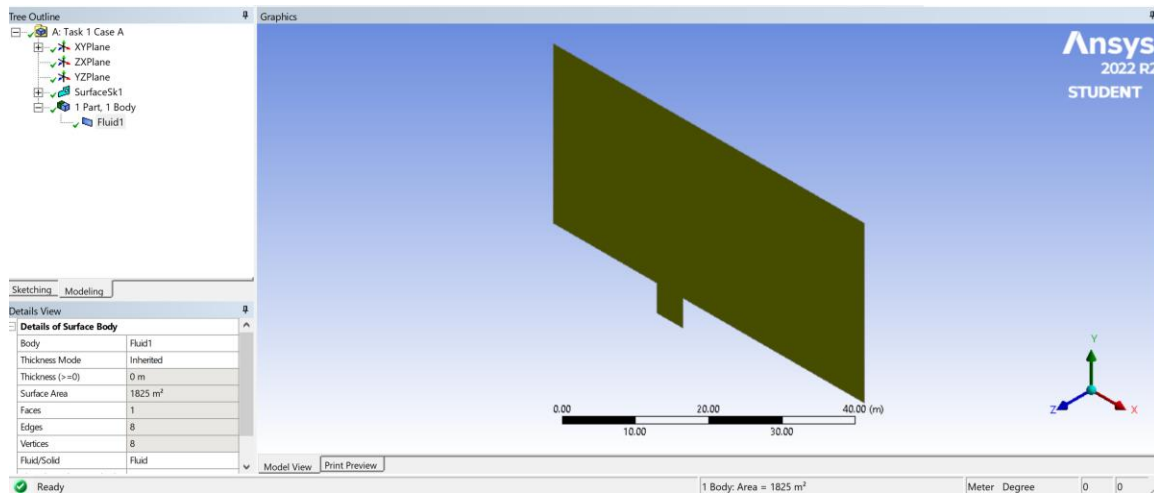

Figure 1: Geometry of Computational Domain (Task 1).
- In this task, we simulate the leaking of natural gas from an underground vault into open air, in a pure 2-D setting. The computational domain is as shown in Fig. 1. A pipe at bottom is connected to a pressurized reservoir of methane (representing natural gas). This task includes two transient simulations. In both, use the default constant values of density and viscosity from Fluent database for air and methane, and set gravity to the regular $g = -9.81 \text{ m/s}^2$ in the vertical direction (the “y direction” in Fig. 1). Use turbulence k-omega model with default setting. Since both phases are gases, the effect of surface tension can be ignored.
- Case B:** Use the same setting as Case A except that the gauge pressure at inlet D is increased to 150 Pa. In addition, the left boundary marked by A is replaced by a velocity inlet, with an imposed velocity profile for the x-velocity given by $u = 0.6y - 0.02y^2$ where u is in m/s and y in m. (Otherwise, gauge pressure is set to zero at this inlet.) This gives a parabolic profile with $u = 0$ at the ground ($y = 0$) and top of the domain ($y = 30$ m), and u attains the maximum of 4.5 m/s at $y = 15$ m. (See a sketch in Fig. 1.) Air is pumped into the domain through inlet A. At $t = 0$, initialize the system in the same way as Case I. Perform the transient simulation to $t = 6$ s.